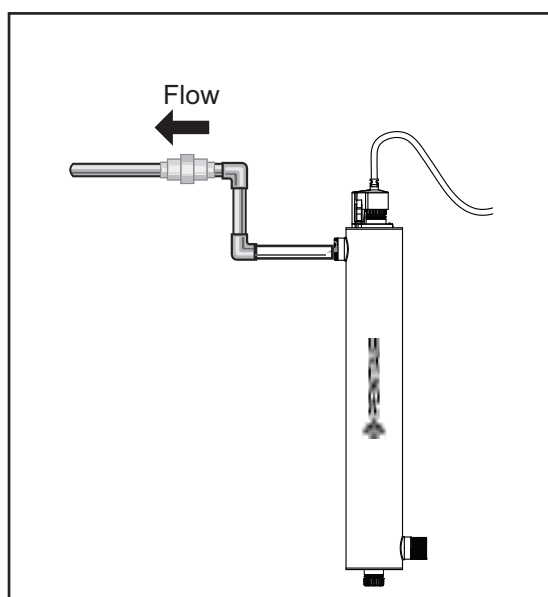

Figure 4 Flow
3. Mount the system to the wall using the supplied clamps. Various connection methods can be used to connect the water source to the system, however union type connectors are recommended. The use of a flow restrictor device will help to maintain the manufacturer's rated flow. The flow restrictor should be installed on the outlet port and is designed to be installed in one direction only. Ensure that the flow of the water matches the flow direction as indicated on the flow restrictor. Refer to Figure 4.